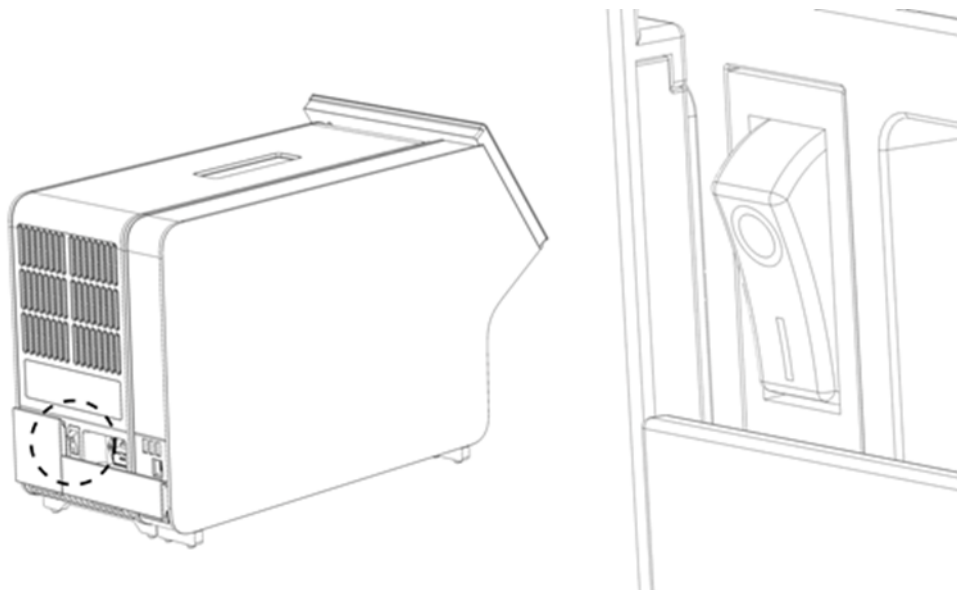

Figure 21. Locating the power switch and setting it to the “I” position.
10. Power ON the instrument by pressing the power switch on the back of the Analytical Module to the “I” position (Figure 21). Confirm that the status indicators of the Analytical and Operational Modules are blue.